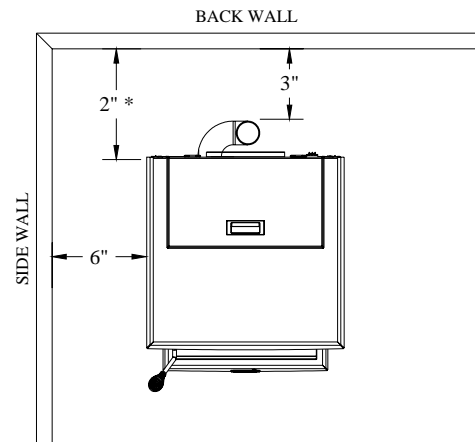

Figure 1
The FP-35 has been tested and listed for installation in regular and mobile homes.(refer figure 1 & 2)
1. Position stove, adhering to clearances shown in Figures 1 & 2.